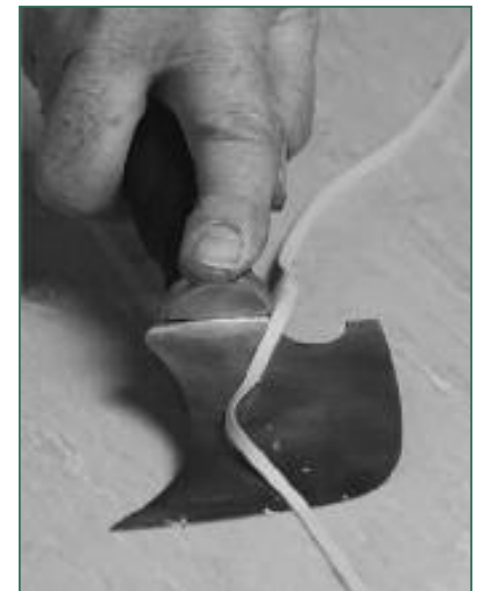

Figure 32 Final trim after the weld has cooled
**B.** *When the remaining weld has cooled to room temperature, the excess weld should be trimmed. The spatula knife, again honed edge uppermost, is used without the trimming guide. Keep as shallow an angle as possible between blade and floor to avoid the risk of "digging in" (Figure 32).*